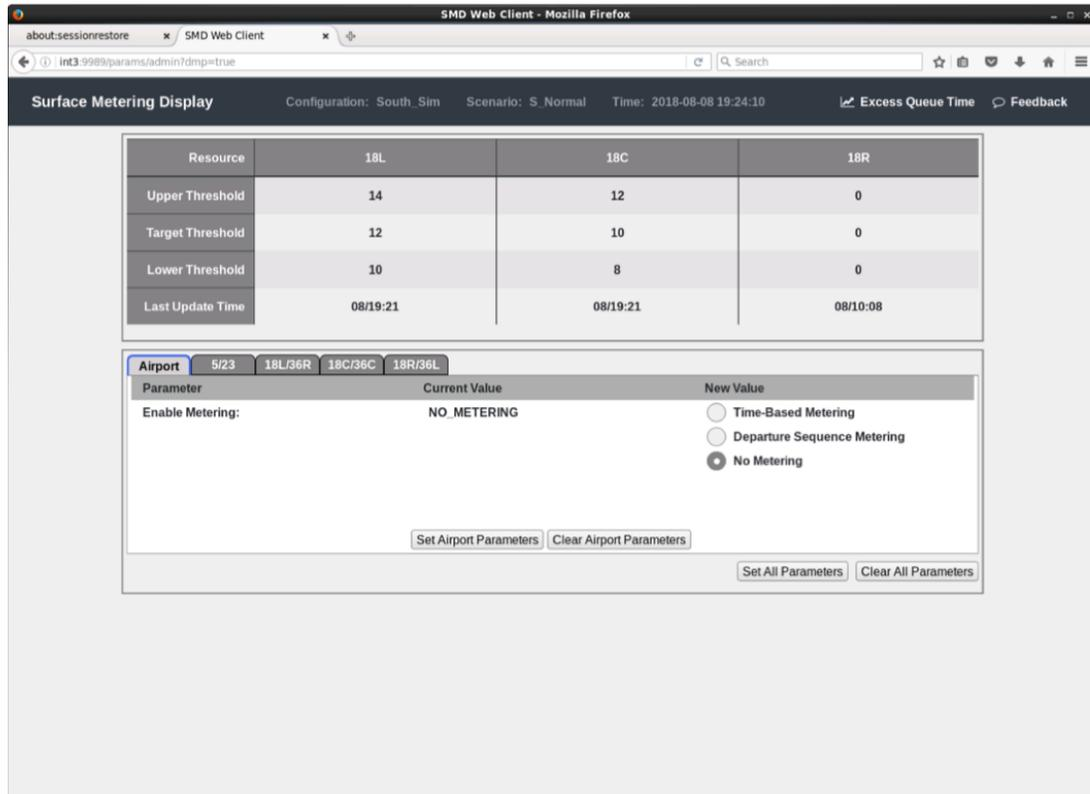

Figure 3. The initial SMD interface window.
This section describes the ATD-2 surface metering capability and the elements of the SMD main interface (see Figure 3). With the release of ATD-2 software version 4.0.0, metering was switched from the tactical mode used in previous versions to the newly implemented strategic metering mode. At that time, all NASA meatballs were set to point to the strategic metering links.
Step 2: Click on the ‘Metering Params’ toggle option on the right side of the SMD’s toolbar. The window will now display the Metering Parameters page and the toggle option will now display ‘Excess Queue Time’ (Figure 3).
The primary information and selectable options for the Metering Parameters page as it initially appears is shown above in Figure 3. The top half of the page shows the current settings for Target Excess Queue Time (TEQT) and upper and lower thresholds by airport resource (i.e., runway). The lower half of the page allows for setting the type of metering to be used for the airport, and also setting the associated parameter values either by airport or by runway.
The top half of the Metering Parameters page displays the current setting for target and threshold times for each resource listed, shown in Figure 3. The resources listed are based on the current configuration. The system will look up the departure runways used according to the current airport configuration set in the STBO Client and it will only display those active runways.